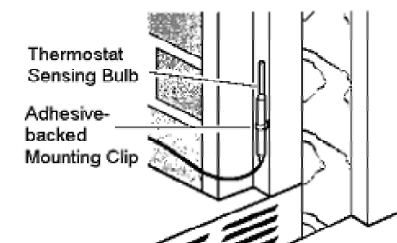

Figure 41 - Installing Thermostat Sensing Bulb in Factory-Built Metal Fireplace
2. Remove the thermostat sensing bulb out of the plastic clip (see Figure 41).